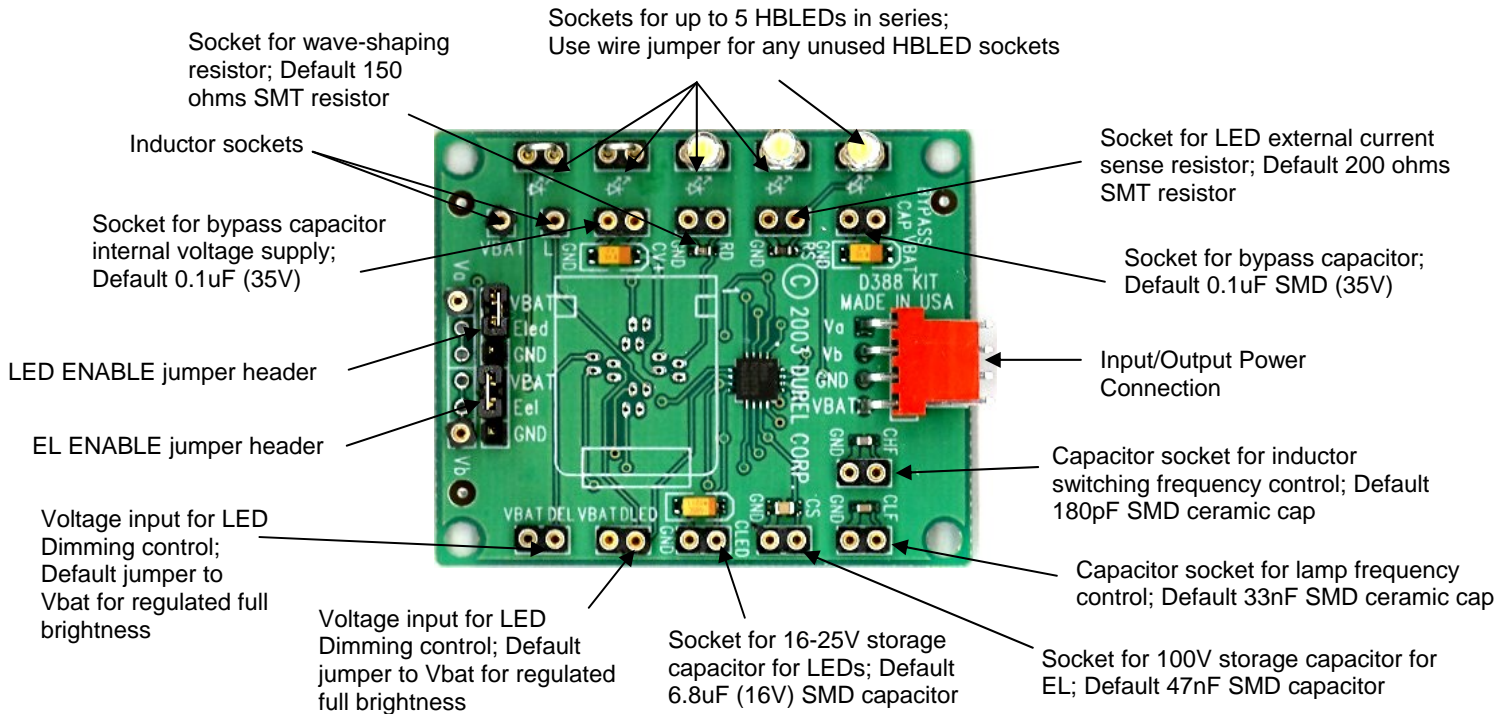

Figure 1: The D388A IC Designer's Kit Board
The D388A IC Evaluation Board (see Figure 1), which is preconfigured with a D388A IC Combination EL and HBLED driver IC, is a useful tool for optimizing a driver circuit that meets your power draw budget while achieving your brightness requirements from both backlighting solutions. Refer to the D388A IC datasheet for reference circuits to use as a starting point for your particular design and instructions on component selection.
Simply insert an appropriate value of inductor (L) between the socket labeled as VBAT and L as shown in Figure 1, and connect your required number of HBLEDs and wire jumpers in the labeled HBLED sockets to complete your driving circuit. Default values of the other required components are already pre-soldered surface mount devices on the board. You have the option to remove any of these pre-soldered components and replace them with leaded components in the appropriate sockets or with alternate surface mount type devices. A selection of standard values of capacitors, resistors, and inductors are included in the D388A IC Designer's Kit for your use.